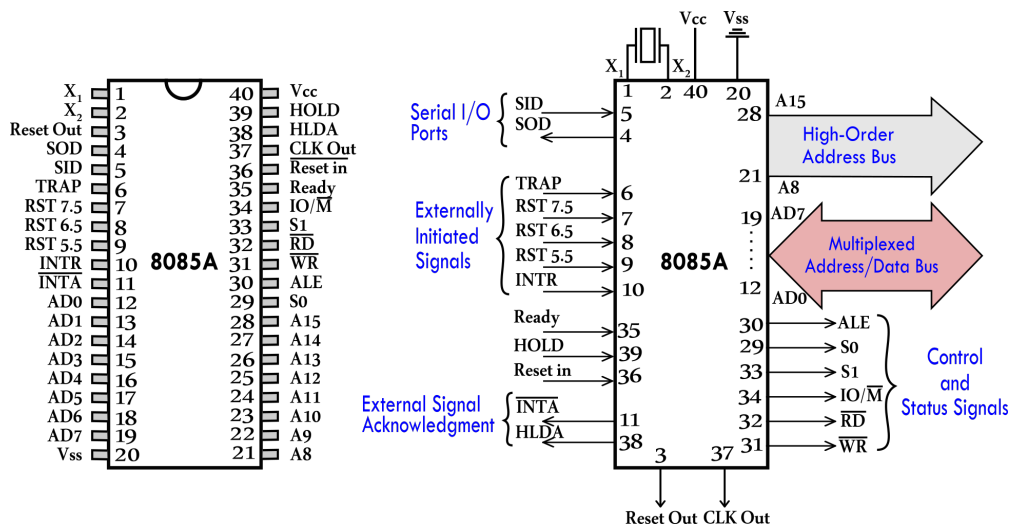

Figure 3.1: The Pinout and Signals of the 8085 Microprocessor
Figure 3.1 shows the logic pinout of the 8085 microprocessor. All the signals are classified into six groups: (1) address bus, (2) data bus, (3) control and status signals, (4) power supply and frequency signals, (5) externally initiated signals, and (6) serial I/O ports.